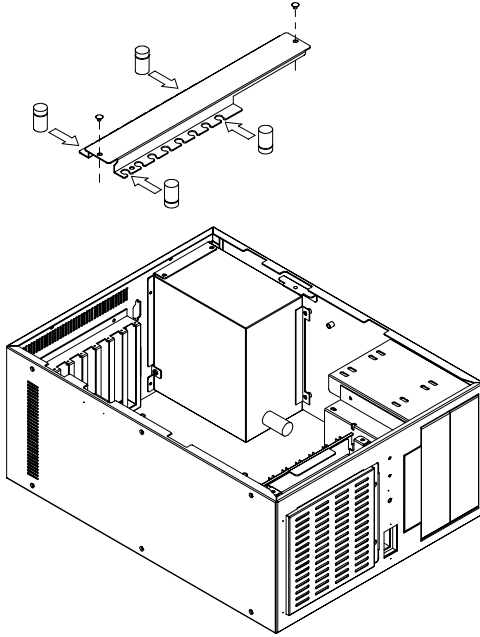

Figure 2-3. Hold-down clamp installation
1. Insert the rubber buffers into the hold-down clamp (see Fig. 2-3). Buffers cushion plug-in cards from shock and vibration. The hold-down clamp has two rows of notches for the rubber buffers to be inserted, one row is for PCI cards, the other row for ISA cards. Depending on the card height, the buffers can be inserted as the narrow end face upwards or downwards.
2. After inserting the rubber buffers, fasten the hold-down clamp to the card cage with the two screws (see Fig. 2-3).